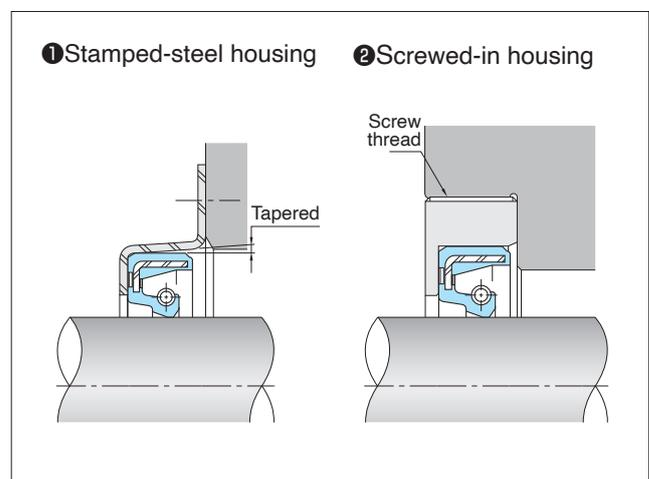

Fig. 6-4 Improper Housing Bore Designs
Fig. 6-4 illustrates two improper housing designs. For case ①, since stamped steel is used, the hole surface is apt to be tapered and the inside diameter or roundness will vary, causing the oil seal to leak or even become dislodged.